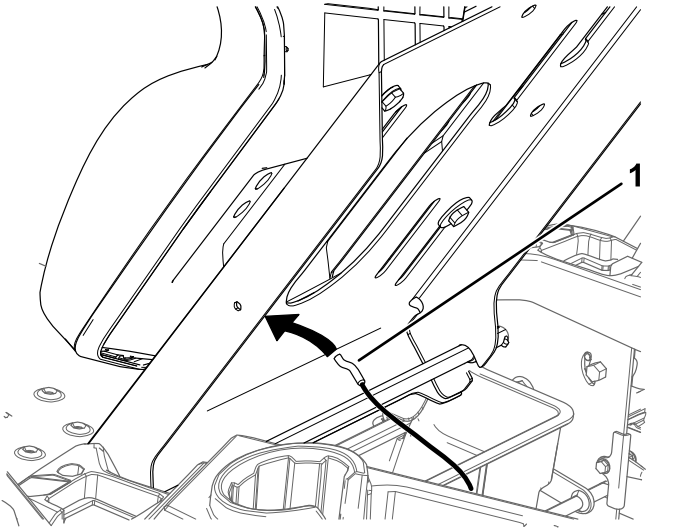

Figure 3
2. Attach the seat-tilt cable from inside the seat pan (Figure 3).